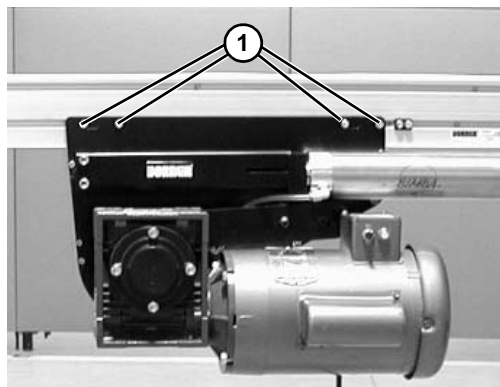

Figure 71
2. If necessary, adjust the tracking cam: loosen the center drive fastening screws (**Figure 71, item 1**) on the side of center drive to be tracked.
4. Tighten the center drive fastening screws (**Figure 71, item 1**) to 146 in-lbs (16.5 N-m).